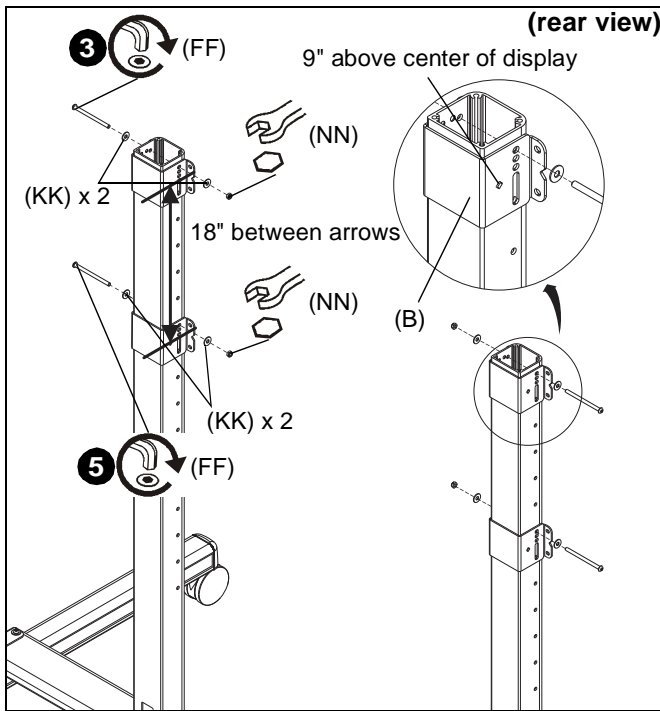

Figure 3
2. Place the top clamp brackets (B) on columns (AA) 9" above the center of the display that will be on the cart with the diamond on the clamp brackets (B). (See Figure 3)
3. Use 5/16-18 x 4 1/2" button head cap screw (GG), two 5/16" washers (KK) and 5/16-18" lock nut (NN) to secure each clamp bracket (B) to column (AA). (See Figure 3)
4. Place bottom clamp brackets (B) on columns (AA) 18" below the first pair of installed brackets. There must be 18" between the diamonds on the side of the brackets. (See Figure 3)
5. Use 5/16-18 x 4 1/2" button head cap screw (GG), two 5/16" washers (KK) and 5/16-18" lock nut (NN) to secure each clamp bracket (B) to column. (See Figure 3)